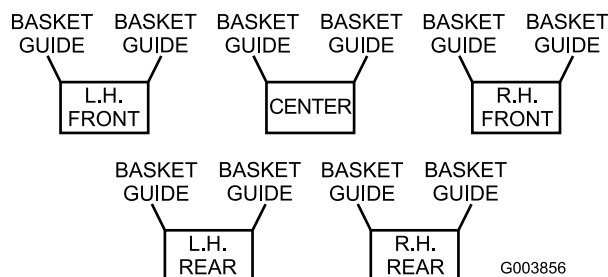
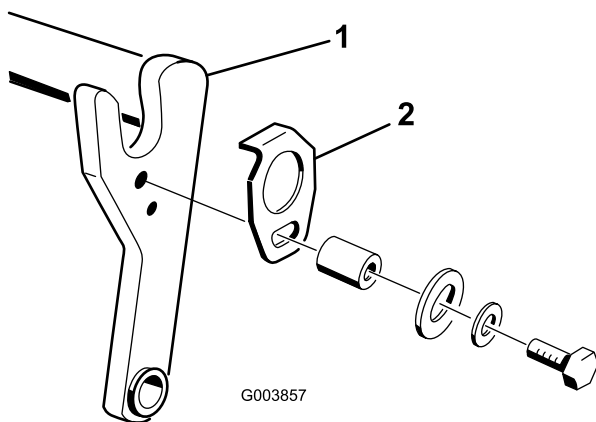
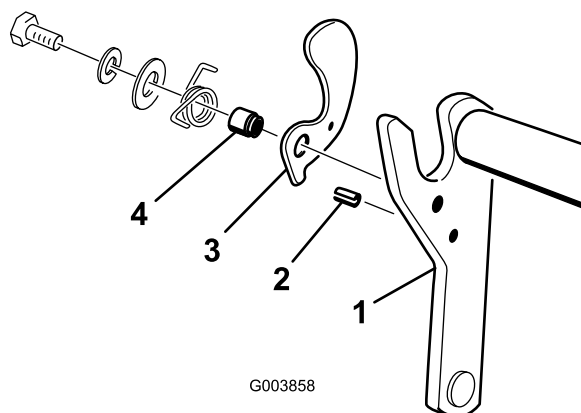

Figure 6
Figure 7
Figure 8
2. If you will be using baskets on the cutting units, use the chart below (Figure 6) to determine the locations at which you need to mount basket guides to the cutting unit carrier frames. If you will not be using baskets, proceed to step 4.
3. Mount a basket guide (Figure 7) to the appropriate side of each cutting unit carrier frame (Figure 8) with a bolt (5/16 x 1-3/4 inches), flat washer, and lock washer or fasteners previously removed, as shown in Figure 7.
4. Install a roll pin (Figure 8) into the hole in the appropriate side of each cutting unit carrier frame (Figure 6).